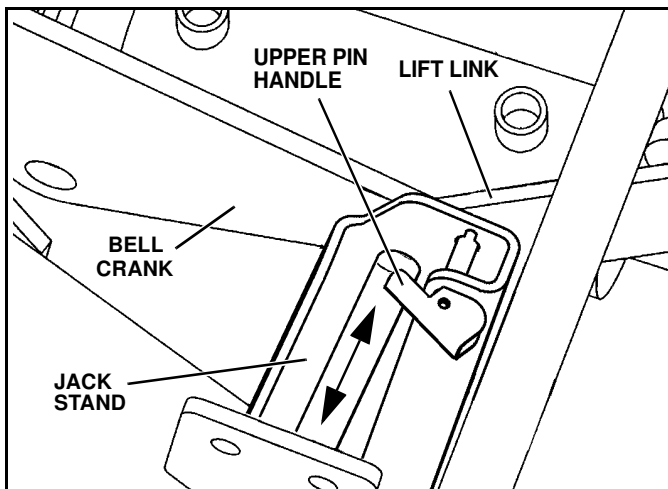

Figure 1-31
7. Disengage lower jack stand pin by pulling on handle. Lower the jack stand and engage the top pin by pushing on the handle. Make sure pin is engaged in hole by rotating jack stand back and forth. (See Figure 1-31)